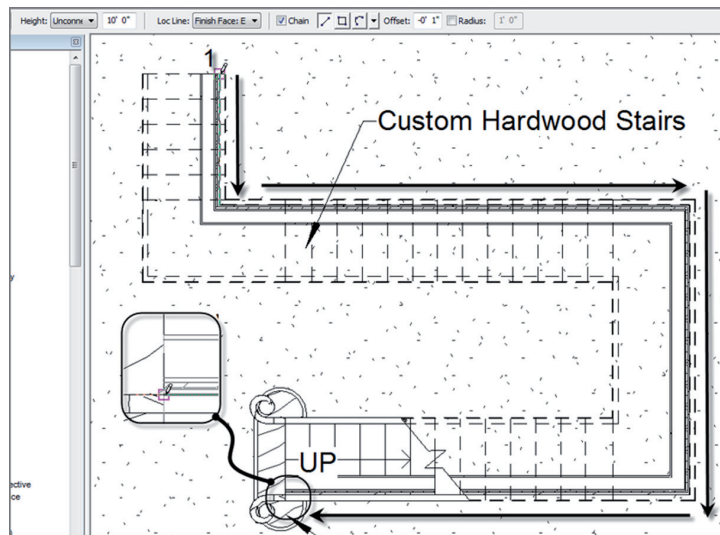

FIGURE BC1.11: Placing the wall clockwise in the model
34. Draw the wall by snapping to the inside of the stringers, as shown in Figure BC1.11. You want to go in a clockwise direction, so start with the northern part of the staircase, marked 1 in Figure BC1.11.